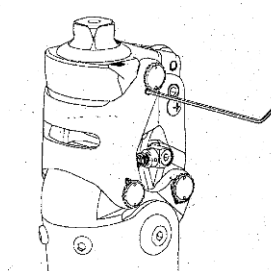

Fig. 6
e) Make knee flexions and extensions to check flexibility, then install the clamping screws (Fig. 6). If the resistance to flexion or extension is too high, loosen toothed knobs **C**, then **B**, then **A**.